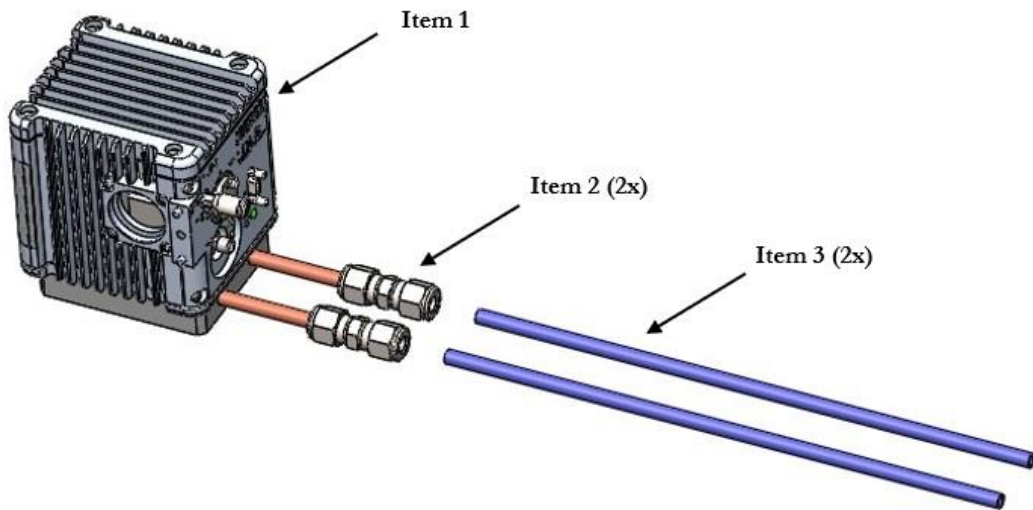

Figure 9: EQ-99-CAL Lamp Head Assembly
1. The Swagelok fittings will need to be attached to the two copper tubing, as shown in Figure 9.
2. The 1/4" end of the Swagelok fitting will connect to the two 1/4" OD Tubing, as shown in Figure 9.